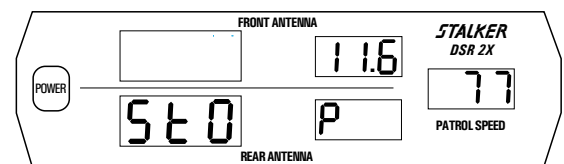

Fig. 33
4. The computed speed will be computed and shown in the patrol window. Fig. 33 is an example of a 1320-foot measurement zone, an 11.6-second measurement interval, and a 77 mph computed speed.